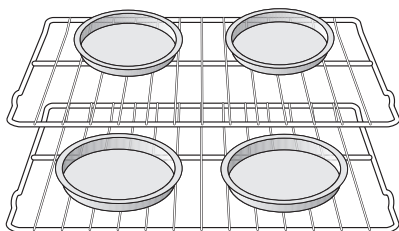

Figure 3: Baking on multiple levels
- For best results when baking cakes or cookies using two oven racks, place pans as shown in Figure 3.